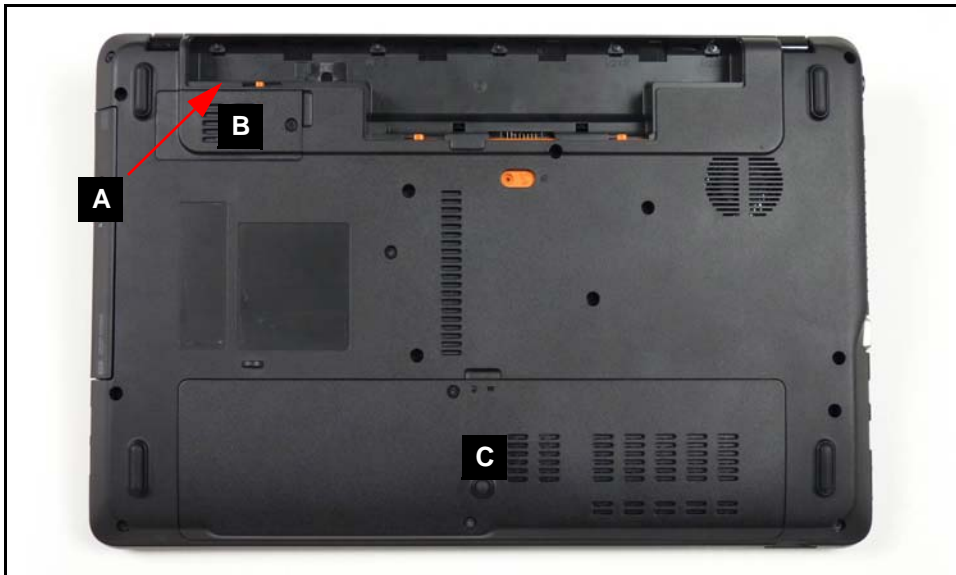
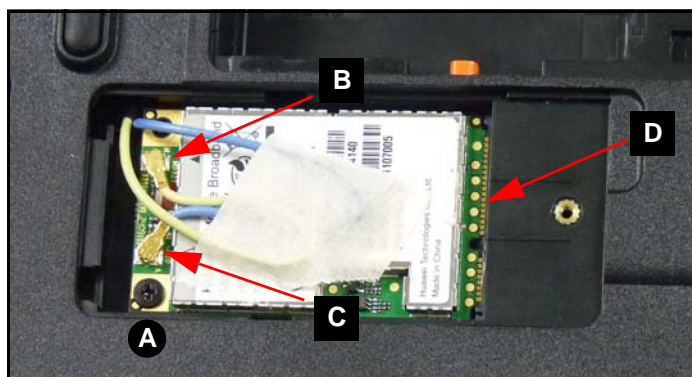

Figure 3-6. Lower Cover Overview with Base Door
Figure 3-9. 3G Module with Antenna Cables
1. Locate 3G card slot (A) in battery bay (Figure 3-6).
1. Locate module door (B) on lower cover. Refer to Figure 3-6.
4. Disconnect main (B) and auxiliary (C) antenna cables from module (Figure 3-9).
1. Insert module into mainboard connector (D). Refer to Figure 3-9.
2. Install and secure screw (A) to mainboard.
3. Install main (B) and auxiliary (C) antenna cables on 3G module.
4. Install 3G module door (B). Refer to Figure 3-6.
1. Locate base door (C) on lower cover. Refer to Figure 3-6.